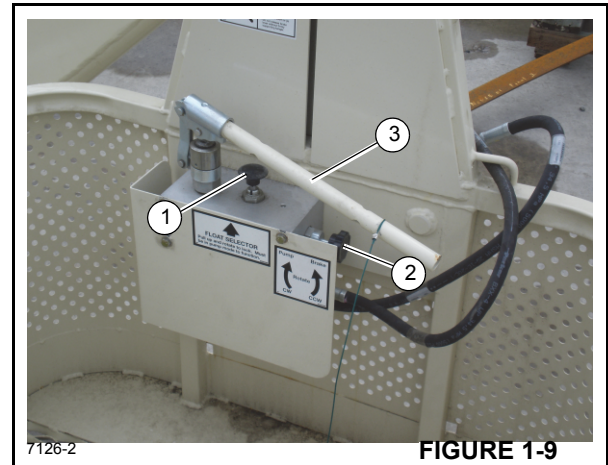

FIGURE 1-9
1. If the basket yoke is raised higher than required during installation; it can be lowered by *SLOWLY* pulling up on the float selector (1, Figure 1-9). Use caution when lowering the yoke in this manner. Pulling the float selector (1) out to fast and to far will lower the yoke at a very fast rate.
3. Make sure the float selector (1, Figure 1-9) is turned to the up position and the brake selector (2) is in the CW (clockwise) position. This allows the basket to swing freely as the basket is raised to the work location.
Rotate the brake selector (2, Figure 1-9) to the CCW (counterclockwise) brake position **immediately** after raising the yoke assembly to the proper height (step 4 above). The brake selector must be in the lock position before continuing or using the basket during normal operation.
NOTE: The Yoke Basket hand pump (3, Figure 1-9) should not be used when the crane is operating. The hand pump is to be used *only* when installing the yoke to the crane.